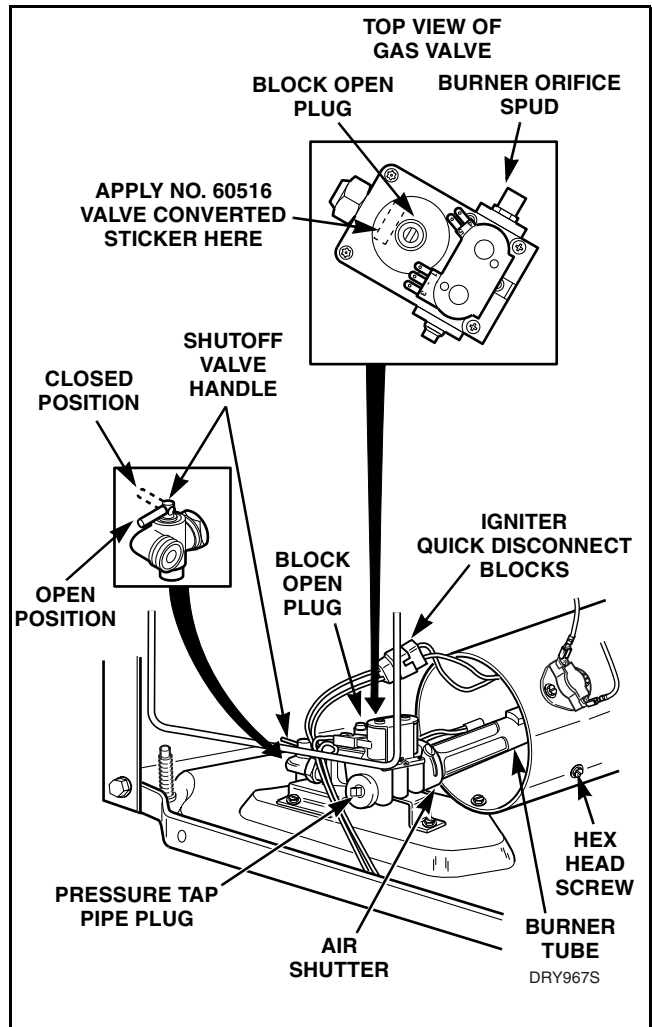

Figure 45
- b. Disconnect igniter wires at quick disconnect blocks. Refer to *Figure 45*.
- c. Remove hex head screw holding burner tube and igniter in place. Refer to *Figure 45*.
- g. Remove block-open plug and install No. 58768 Vent Screw. Refer to *Figure 45*.
- h. Install No. 60516 "Valve Converted to Natural Gas" Sticker to top side of gas valve so it covers the gas valve part number. Refer to *Figure 45*.
- k. Turn the gas line shut-off valve handle to the open position, and connect electrical service. Refer to *Figure 45*.
- (1) Remove pressure tap pipe plug. Refer to *Figure 45*.
- (4) Stop dryer and remove “U” tube and reinstall the pressure tap pipe plug. Refer to *Figure 45*.